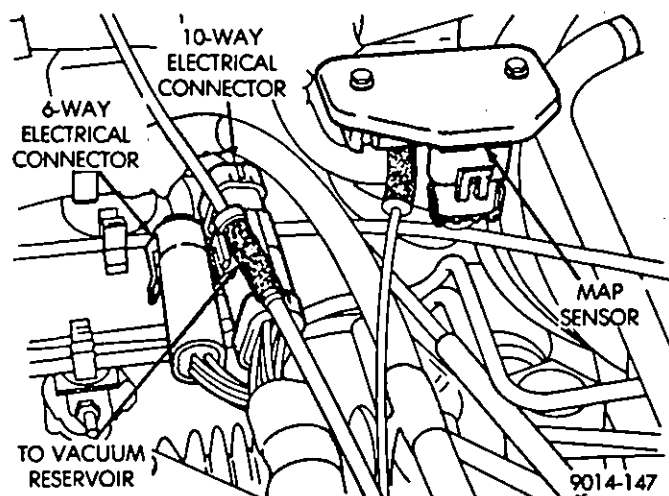

Fig. 28—Engine Harness Connector and MAP Sensor
(15) Verify that the engine harness connector is connected (Fig. 28).
(16) Ensure that the MAP sensor vacuum tube and electrical connector are connected to the sensor (Fig. 28).